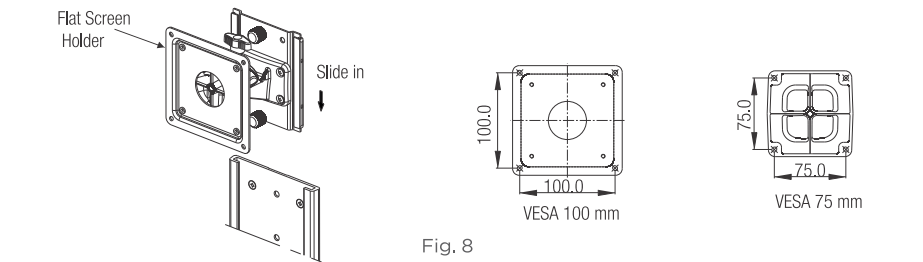

Fig. 8
9. Slide in the Flat Screen Holder into the vertical track as shown in Fig. 8. & tighten the locking knob.